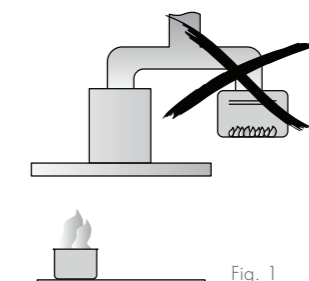

Fig. 1
- ⊗ The exhaust from the canopy rangehood must not be discharged into any heating flue, which may carry combustion products from other sources. (Fig 1)